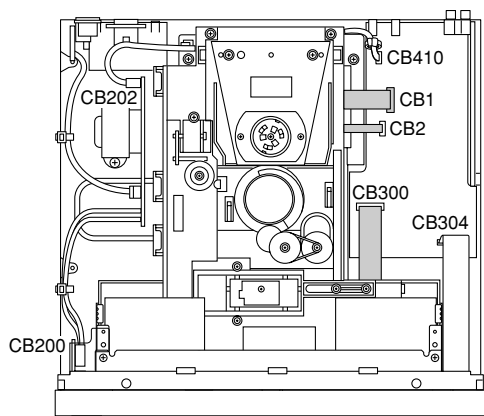

Fig. 4
- Remove CB200 and CB304. (Fig. 4)
- Remove CB1, CB2 and CB300. (Fig. 4)